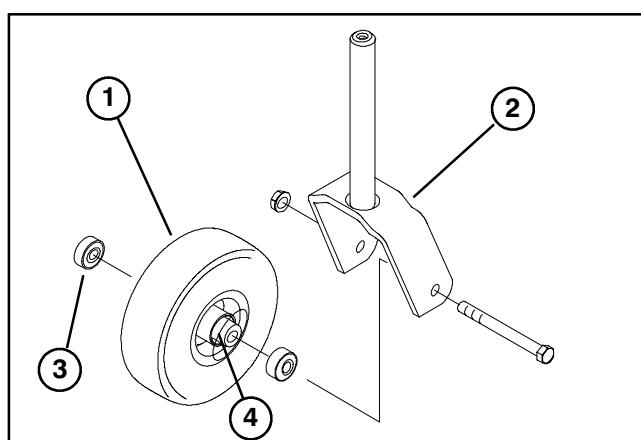
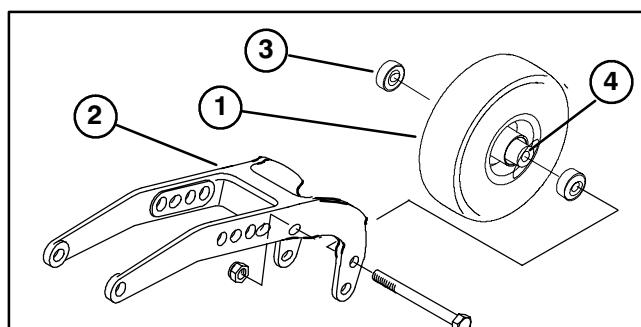

Figure 24
Figure 25
SERVICING CASTOR WHEELS AND BEARINGS (Fig. 24–25)
- 2. Remove locknut from capscrew holding castor wheel assembly between front castor fork (Fig. 24) or rear castor pivot arm (Fig. 25) Grasp castor wheel and slide capscrew out of fork or pivot arm.